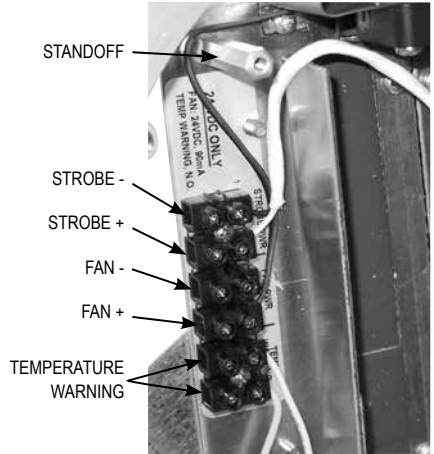

Fig. 4
7. Connect low voltage: Location shown Fig. 2. Wire as shown in Fig. 4. Be sure wiring does not contact heaters by routing the wires around the standoffs.
8. Connect EOL device: (not included) Connect between pins 5 and 6 of low voltage terminal block (Fig. 4). Pins 5 and 6 should then be connected to the fire alarm supervisory control module.